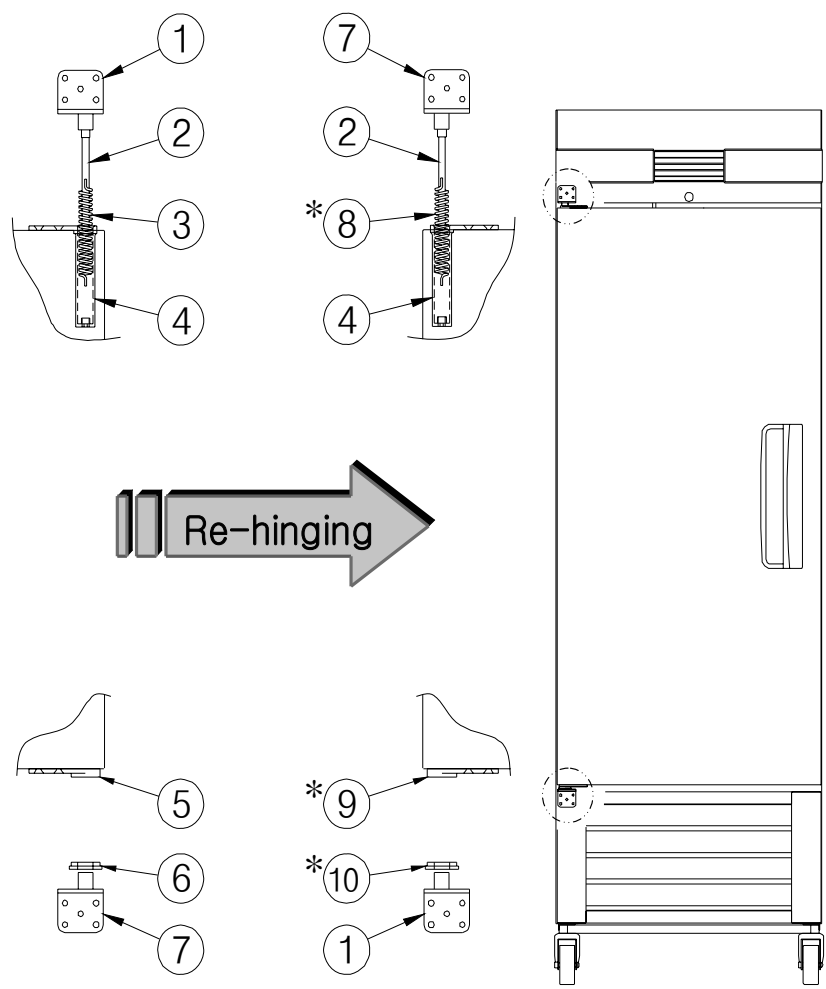

Figure 2.
4) STEP4. Reinstall the door (Figure 2, 3, and 4)